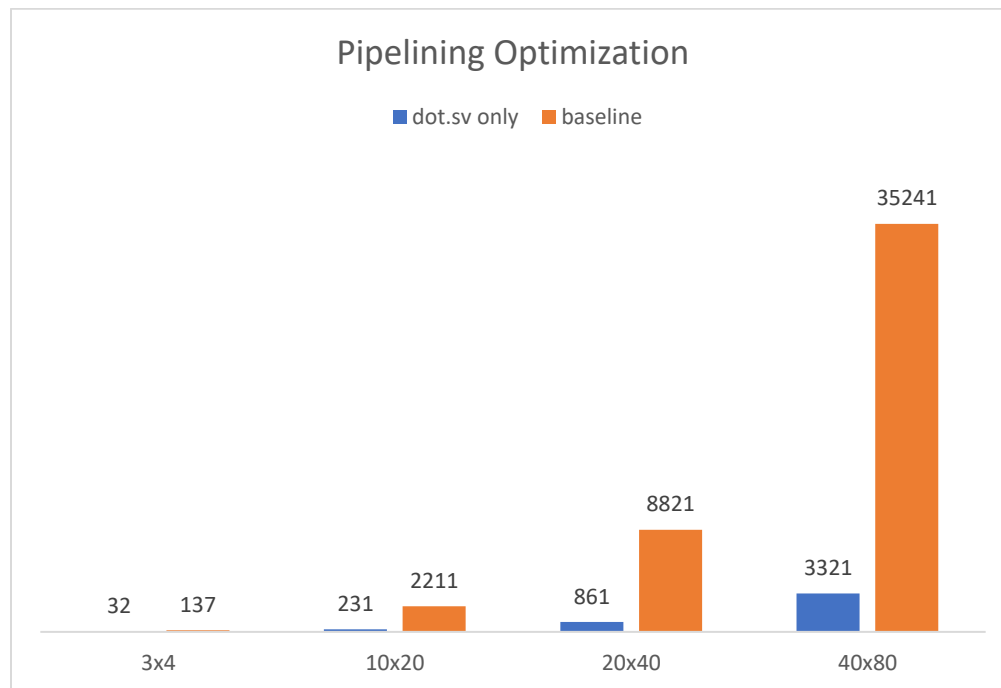

Figure 1 – Pipelining Clock Cycles
between states. Meaning that the wait time was decreased for the FMAC by two clock cycles because of the clock cycles taken between changing states from ST_RUN_FMAC to ST_TERM_ROW. By doing this I was able to get down to 32 cycles on the 3x4 testbench, which is very close to the theoretical minimum- 30 cycles. This minimum is the cycles needed to compute each row (10) multiplied by the rows of the input (3). The cycles for each simulation with just pipelining are below in Figure 1.